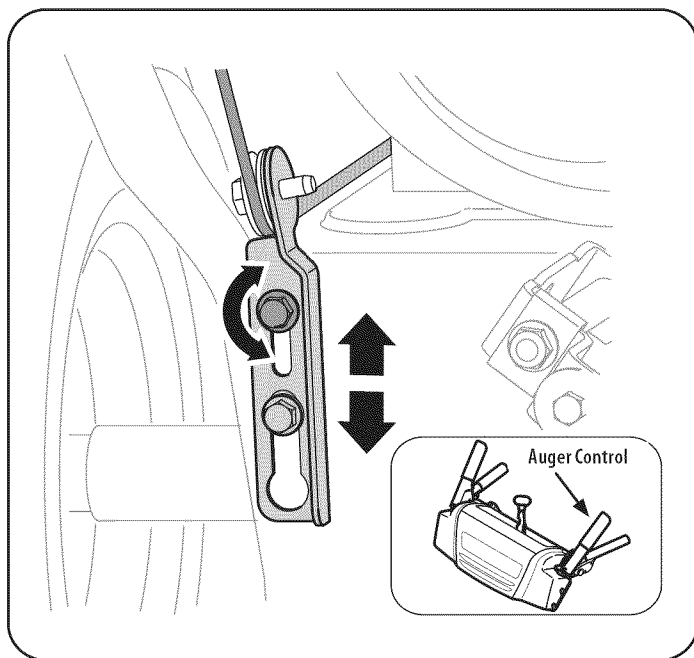

Figure 9
1. The auger control is located on the left handle. See Figure 9 inset. When the auger control is released and in the disengaged “up” position, the cable should have very little slack. It should NOT be tight.
4. Allow the auger to remain engaged for approximately ten (10) seconds before releasing the auger control. Repeat this several times.
7. To readjust the control cable, loosen the upper hex bolt on the auger cable bracket. See Figure 9.